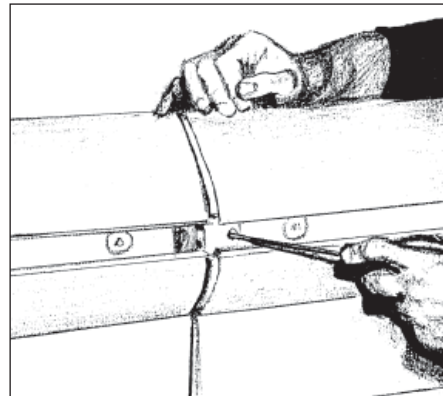

Fig. 2 Case-to-case joint
1. If a master bumper is included, locate the hole in the center of the master bumper joint. Using a screw driver as a lever, slide the case-to-case joint to the center of the joint between the two cases (Fig. 2). Slide the master bumpers left or right to close the seams as required, working outwards from the center of the line-up to the ends.